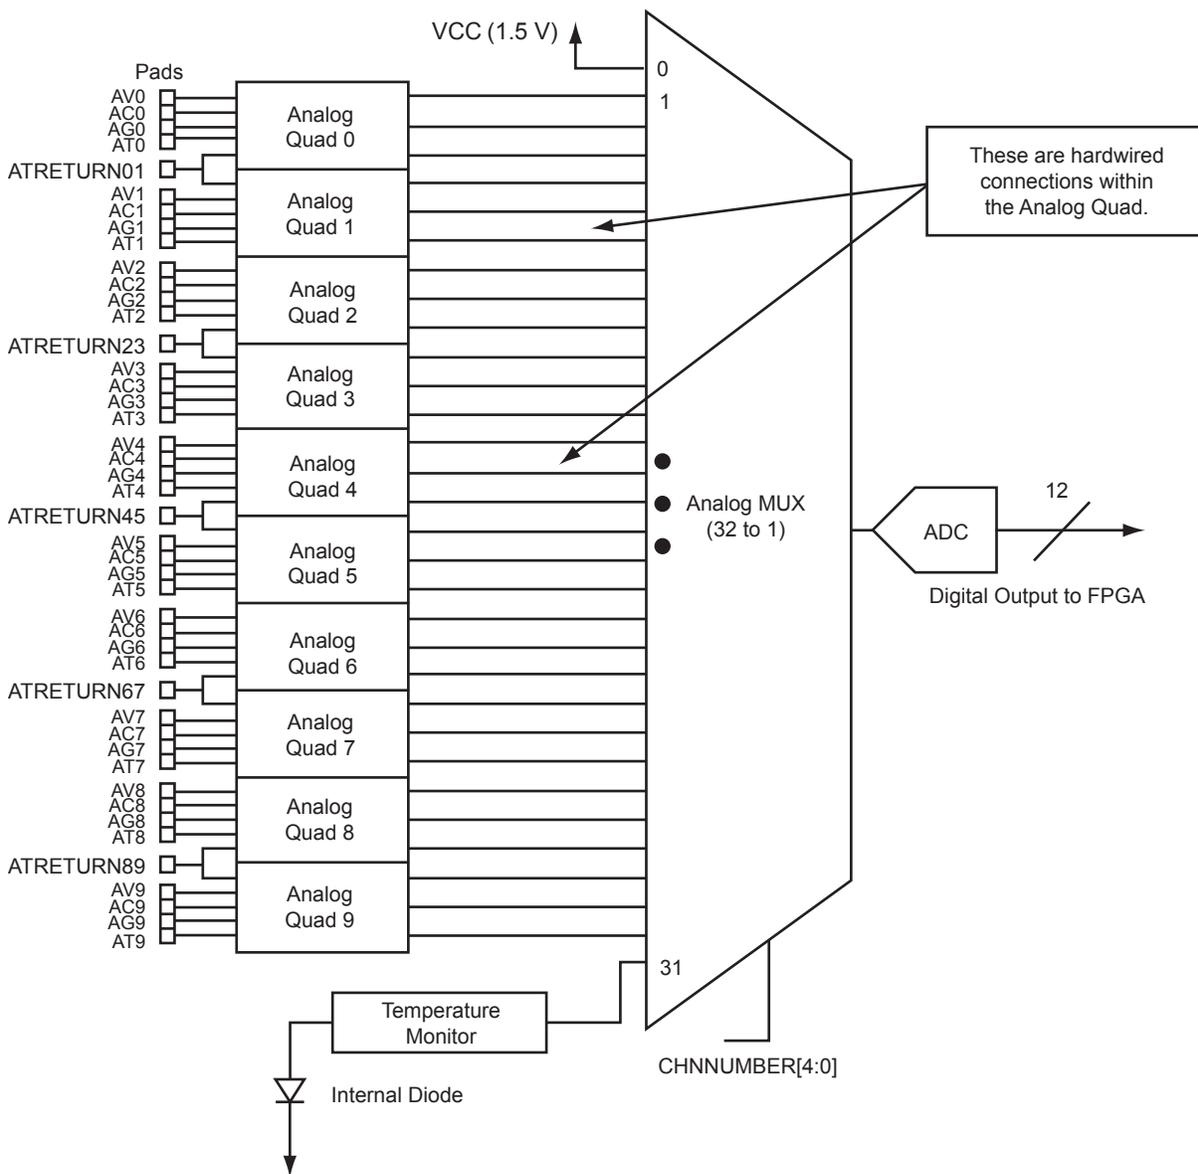

Figure 8-4 • Analog Block ADC and MUX Architecture
As described in the *Fusion Family of Mixed-Signal Flash FPGAs* datasheet and illustrated in Figure 8-4, there is one ADC in the Analog Block (AB) and up to ten Analog Quads, with three analog inputs each: AV, AC, and AT. The analog input to ADC is selected through a MUX architecture controlled by the CHNUMBER select input. FPGA fabric access to the CHNUMBER input of the AB provides users the flexibility to define custom sample sequencing among the Analog Quads.
There is no automatic internal sequencing in the architecture shown in Figure 8-4. Therefore, the CHNUMBER input of the MUX must be controlled and defined by the user's design at all points